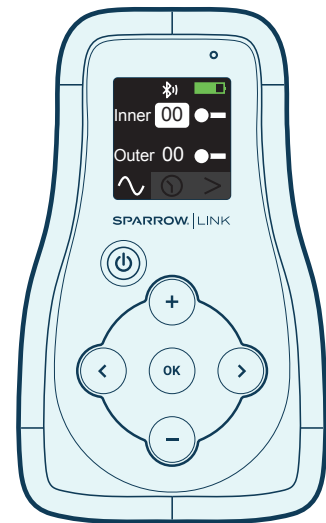

Figure 5: The Inner strength is highlighted
3. Use the directional buttons to highlight the Inner or Outer strength (**Figure 5**). Once highlighted, press the OK button to enable adjustments. The cursor will flash when adjustments are enabled.